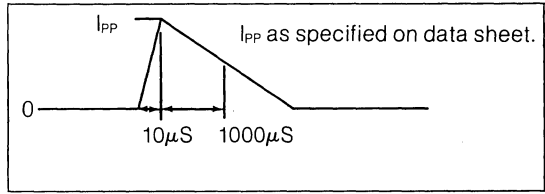

Figure 7 — Commonly Used Test Waveform
In addition to the magnitude of the voltage, current or power, the waveform or pulse width should be specified, as shown in Figure 7, for example.
1. The $10 \times 1000\mu\text{S}$ Test Waveform used by many TVS manufacturers, also by incoming inspection departments of users, represents some commonly encountered transients. (See Figure 7).